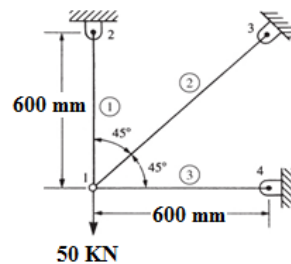

Figure1
- 14 For the truss shown in fig 1 calculate the nodal displacements and element stresses.